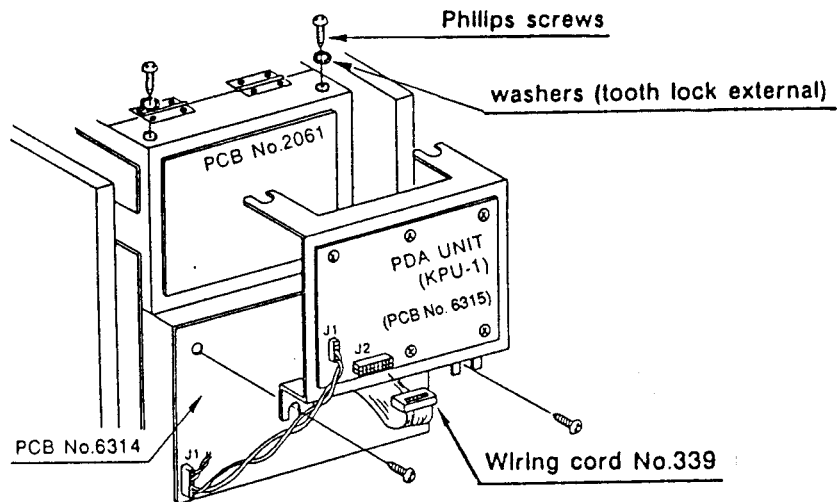

Figure 6-0-6 Location of PCB No. 2061, PCB No. 6314, and PCB No.6315 (option)
- B. PCB No.2061, PCB No. 6314, Power Supply block, and PCB No.6315 (option) are located on the rear side of the instrument. Figure 6-0-6 shows the location of PCB No.2061, 6314, and 6315 (option).